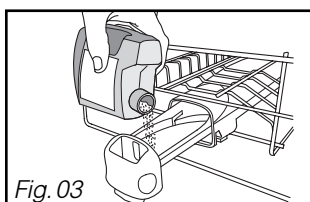

Fig. 03
• Powder or liquid in the distributor's drawer (Fig 03)